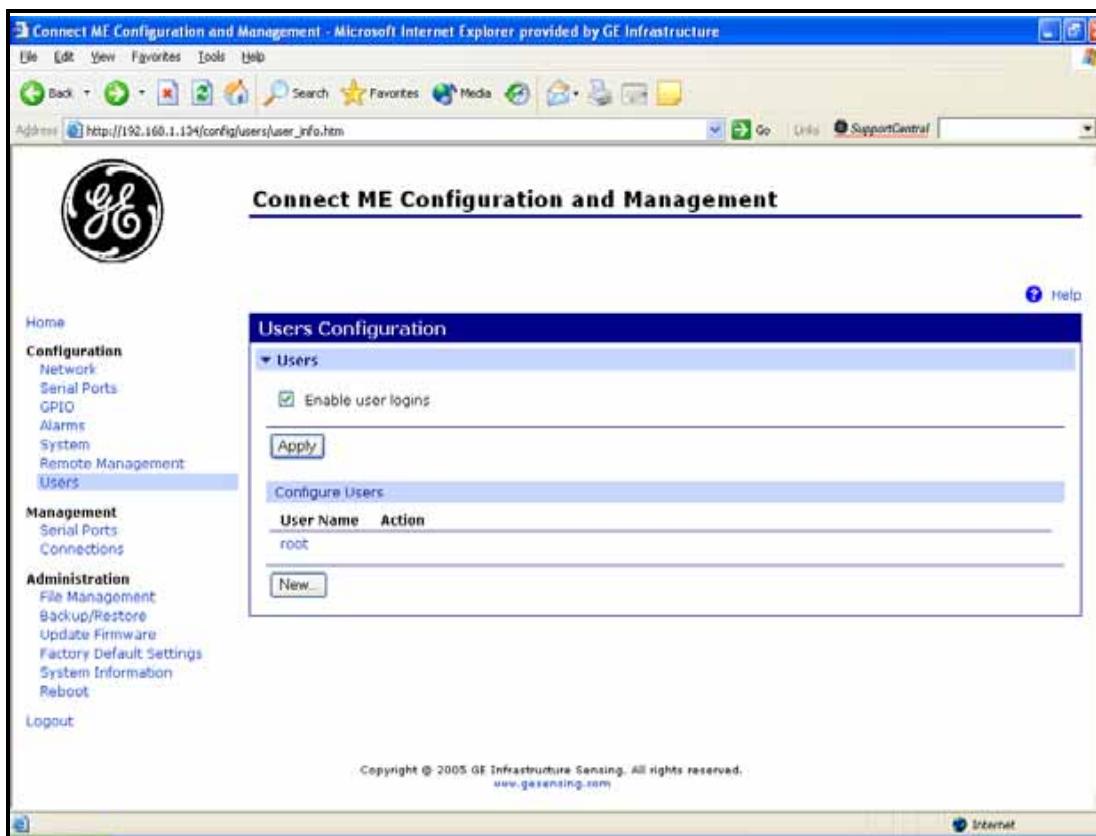

Figure 18: User's Configuration Menu
3. Click on **Login**. Figure 18 appears.